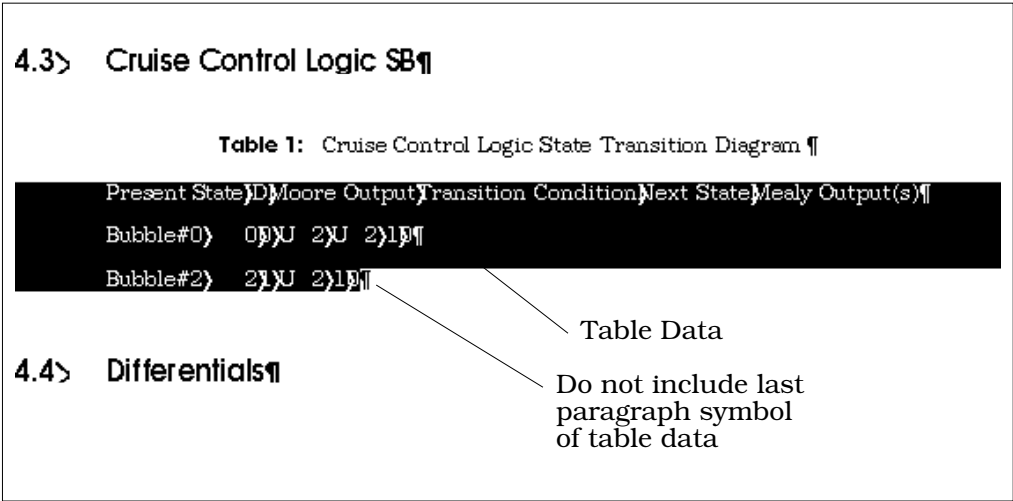

FIGURE B-3 Marking Data for Table Formatting
- a. Select all the data you want to include in the table, but do not include the last paragraph symbol in the last row of table data (see Figure B-3 for an example of exactly what information you need to select for reformatting).